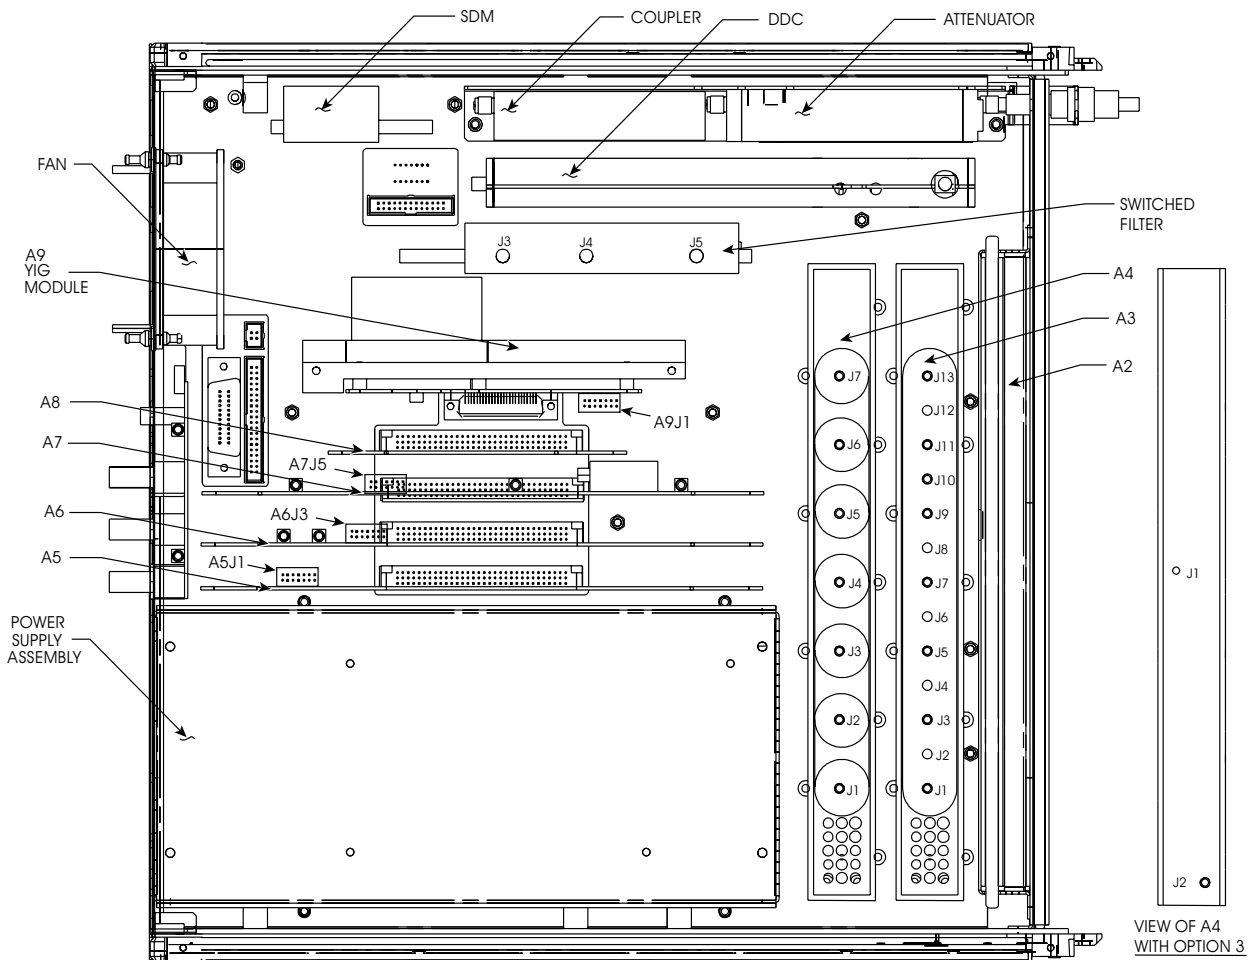

Figure 6-10. Locations of A5, A6, A7, A8, and A9 PCB Assemblies
Step 1. Grasp the A5 PCB by the edges and pull up to remove the board from the chassis connector. See Figure 6-10 for locations of the A5, A6, A7, A8, and A9 PCB's .
Step 2. Locate the five screws that secure the rear panel to the chassis and power supply panel to the chassis (see Figure 6-10, below). Use a Phillips screw driver to remove the screws (retain the screws). The last screw is found on the side panel.